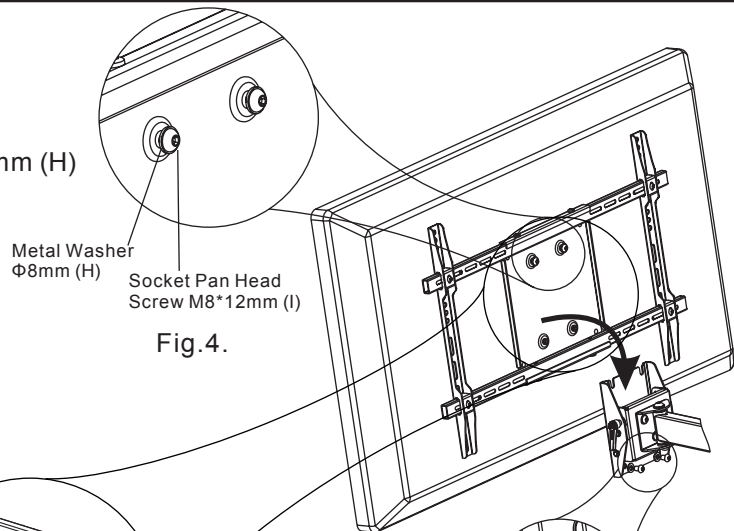

Fig.4.
BY HAND, insert two socket pan head screw M8*12mm (I) and metal washer Φ8mm (H) into threaded holes on the adaptor panel as shown Fig.4. Leave approximately 3/8" of exposed thread.